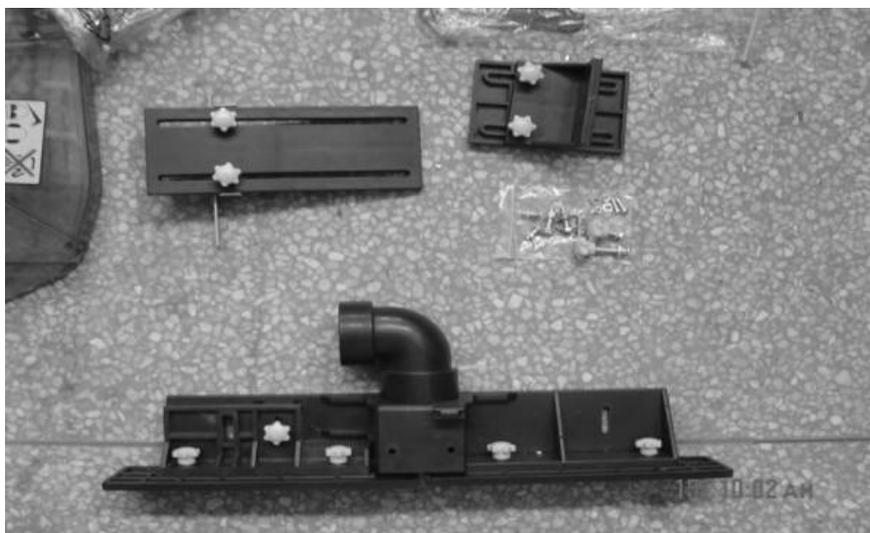

Fig. 9
- 4) After carrying out the previous phases, the parts are as the ones of Fig. 9 below.